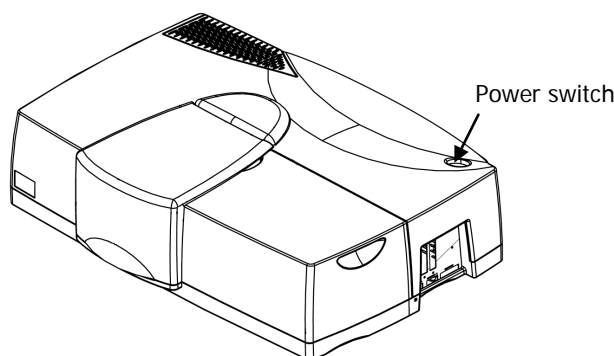

Figure 8 Power switch
4. Switch on the power switch located at the top right hand corner of the instrument as shown in Figure 8.